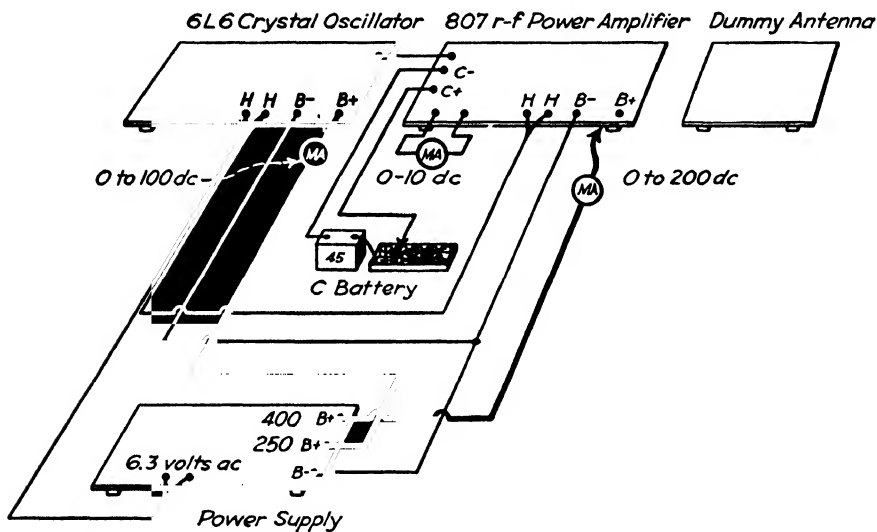

FIG. 444. Attach the meters and the B-plus connections to the power supply, and your set is ready to operate.
Step 4. Connect the B-plus wires to the oscillator board (see Fig. 444). Use about 250 volts. Connect the B power to the amplifier later. Attach a 0 to 100 direct-current milliammeter in the B-plus wire to the oscillator. Connect a 0 to 200 direct-current milliammeter in the B-plus lead to the 807 amplifier.